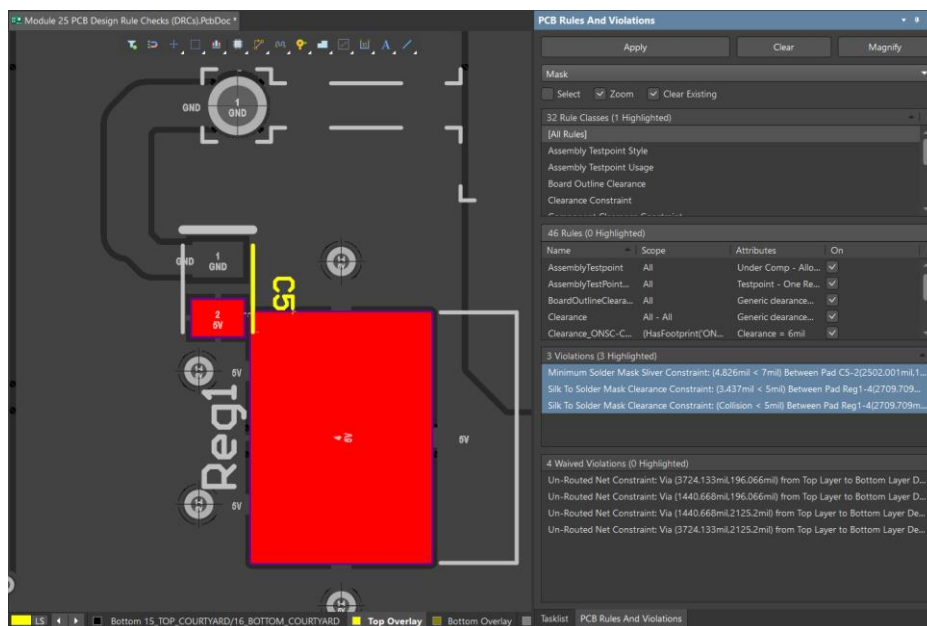

Figure 23. Remaining violations
48. Run the **Design Rule Check...** again from the **Tools** menu. The Design Rule Check should now indicate seven (7) violations.
49. Return to the PCB document. Select **[All Rules]** from the *Rule Class* section to view the seven (7) remaining violations.
51. We will accept these Violations by right mouse click on the violations to open the *Waive Selected Violation* dialog with the *Waived Violation Info* option and enter details like shown in Figure 23.
52. Return to the PCB Rules and Violations panel. Select **[All Rules]** from the *Rule Class* section to view the three (3) remaining violations.
53. Select each of the violations to see different primitives highlighted near the same pad as shown in Figure 23.